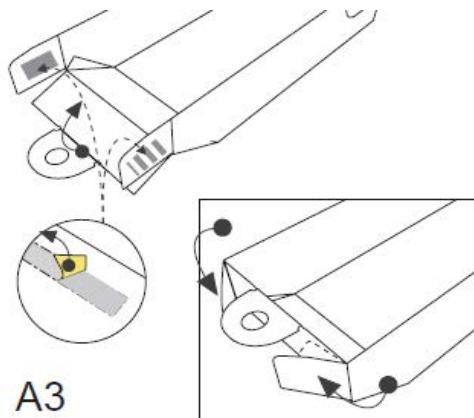

Figure 5-43: LIAISON® EASY Waste assembling instruction step A3
5. Turn the cardboard in front of the side already folded; following the marked crease, fold upwards the two side flaps, fold internally the two extremities and remove the two double-sided adhesive tapes; pull upward the side having the eyelet and glue the two creases folding them on it (see Figure 5-43 step A3). Press the two side flaps in order to ensure the complete gluing of the adhesive tapes.